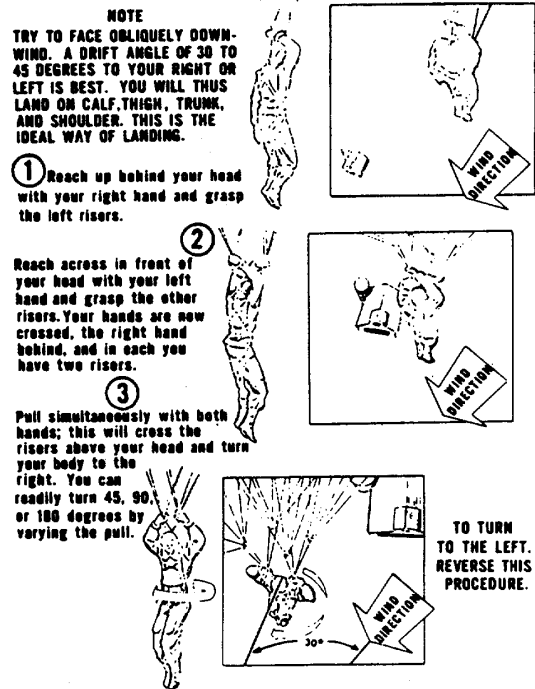

Figure 2-17. How to Make Body Turns and Change Direction.
(3) Changing direction. To change the direction of the parachute descent may be accomplished by slipping the canopy (fig. 2-17). A slip can be made in any direction by pulling on the riser located on the side of the desired direction change. However, slipping the canopy to change direction is a difficult maneuver and should not be attempted except to avoid an obstacle or when making an attempt to reach a clear landing area.